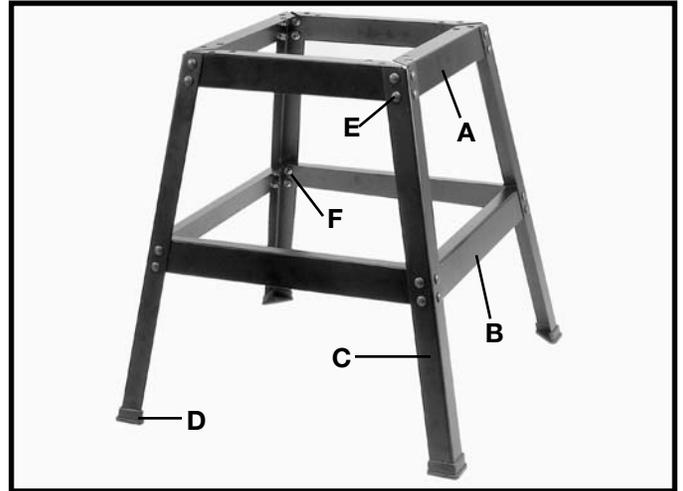

Fig. 3
* - Hex head flange screw M8 x 1.25 x 35 (4) (For fastening planer to stand) * not shown
1. Align the holes in the bottom braces (B) Fig. 3 with the holes in the legs (C), insert a carriage bolt (E) through the leg and the bottom brace, and thread the flange nut (F) onto the carriage bolt. Repeat this process for the remaining holes in the bottom braces and table legs. Do not completely tighten hardware at this time.
2. Assemble the top braces (A) Fig. 3 to the legs (C) in the same manner as step 1.
3. Insert the rubber feet (D) Fig. 3 onto the end of the legs (C) and tighten all hardware at this time.